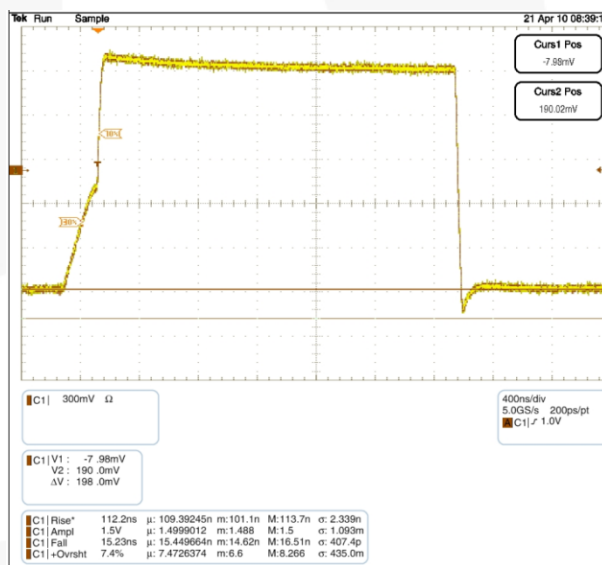

Figure 4. Waveform C: 600pF, Total R_{PU} : 2.2K Ω
C = the bus capacitance. If the FXMAR2104 is attached to the master [on the A port] and there is a slave on the B port, the Npassgates act as a low resistive short between the ports until either of the port's $V_{CC}/2$ thresholds are reached. After the RC time constant has reached the $V_{CC}/2$ threshold of either port, the port's edge detector triggers both dynamic drivers to drive their respective ports in the LOW-to-HIGH (LH) direction, accelerating the rising edge. The resulting rise time resembles the scope shot in Figure 4. Effectively, two distinct slew rates appear in rise time. The first slew rate (slower) is the RC time constant of the bus. The second slew rate (much faster) is the dynamic driver accelerating the edge.